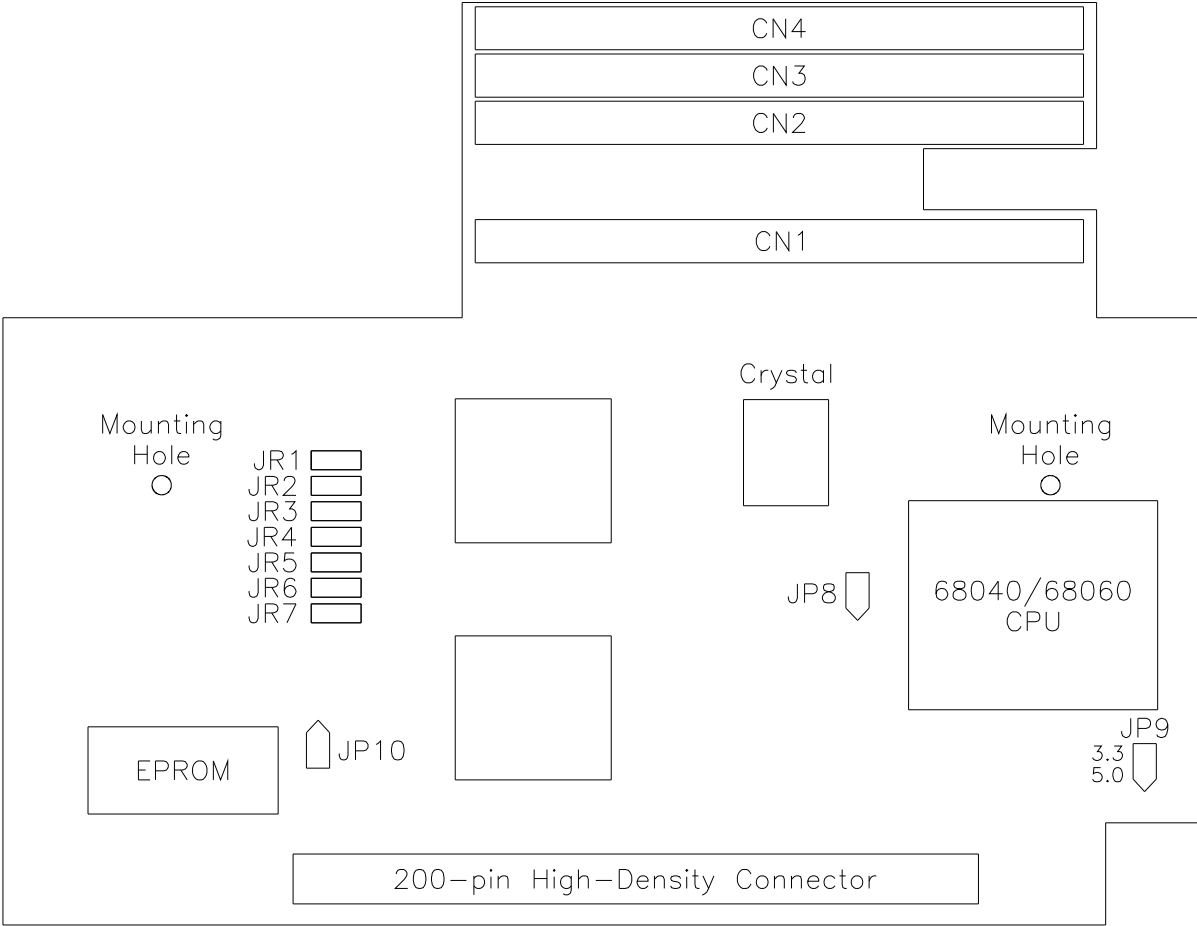

Figure 3.3 - A4000T Board Layout
The A4000T-060/040 accelerator has four SIMM sockets (CN1-CN4) which are located on the upper half of the component side of the board (see figure 3.3). The board is designed to support "burst mode" and EDO type DRAMs in SIMM sizes of 4 MB, 8 MB, 16 MB and 32 MB (parity is not required). However, in order for the board to function properly, it must be configured correctly and several limitations must be observed for optimal performance. These configurations and limitations are discussed in the following sections.
As stated previously, there are four DRAM SIMM sockets on the A4000T-060/040 accelerator, comprising the upper part of the board. (See Figure 3.3) The operating system will automatically sense whether a SIMM is installed in each socket and will add this memory to the system accordingly.
2. Lay the accelerator board on the anti-static envelope in which it was packaged the way that it is displayed in Figure 3.3.
The SIMMs are designed to fit into the sockets in only one way. Pin 1 of each SIMM is keyed with a notch and will only fit properly if this notch matches the corresponding key of the SIMM socket. Looking at the board as shown in figure 3.3 all socket keys are on the left side of the board. Orient each SIMM so that the notch or pin 1 is on your left and the edge with the silver contacts is pointing down. Simply slide the SIMM in on an angle, rotate it up, and snap it into place.
9. Install the nylon spacers on the accelerator in the mounting holes shown in Figure 3.3 by snapping them into place.